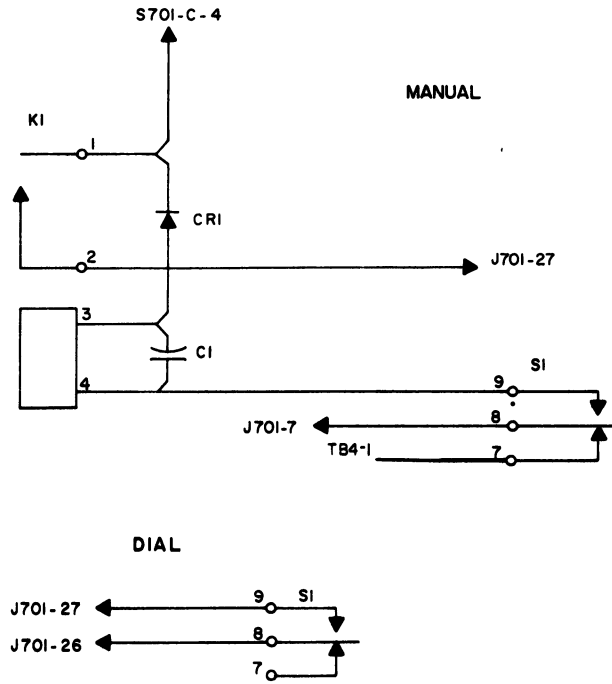

Figure 1
7. Connect the 1N91 Diode (CR1) between K1-3 and K1-1 with the polarity as indicated in Figure 1.